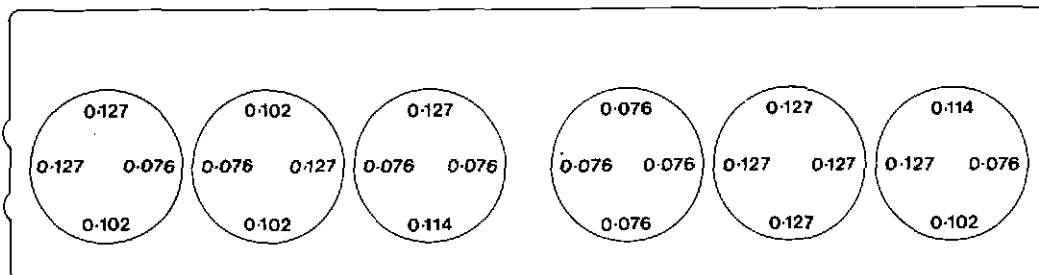

Fig. 2 Liner protrusions
- 17 Transfer the gauge holder to the flame face of the cylinder block, so that each gauge button rests on the top landing of the cylinder liner flange, in the locations indicated in figure 2. Note the deflections, from zero, on each gauge.
- 18 Without altering the dial gauge setting, transfer the gauge holder to each cylinder bore in turn, and check the liner protrusions as described. Compare the readings obtained with the protrusions shown in figure 2, and renew the liners as necessary.